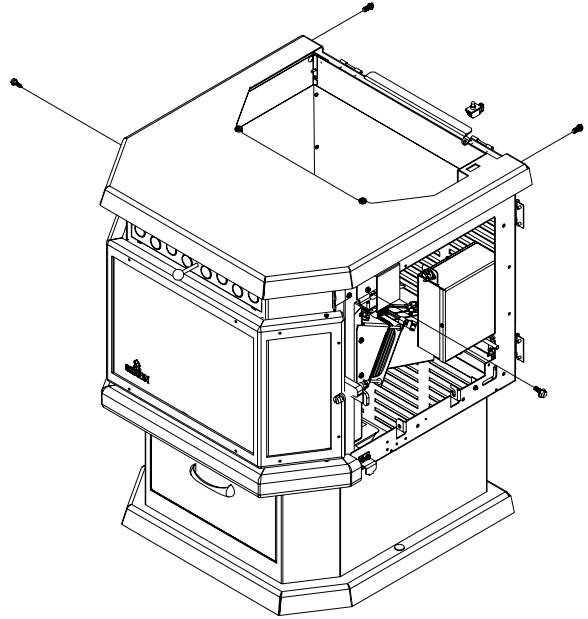

Figure 8
- 2- Secure the top to the stove with the brackets located on each side and 2 screws at the back of the unit.(Figure 8)